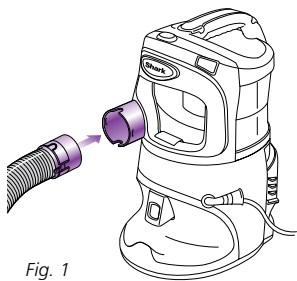

Fig. 1
- 1 Insert the end of the flexible hose into the connector on the front of the **Lift-Around™** Canister Vac. (fig. 1)